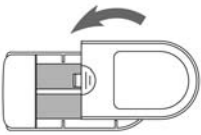

Figure 7
- 3) Install the battery compartment, shown as Figure 7.